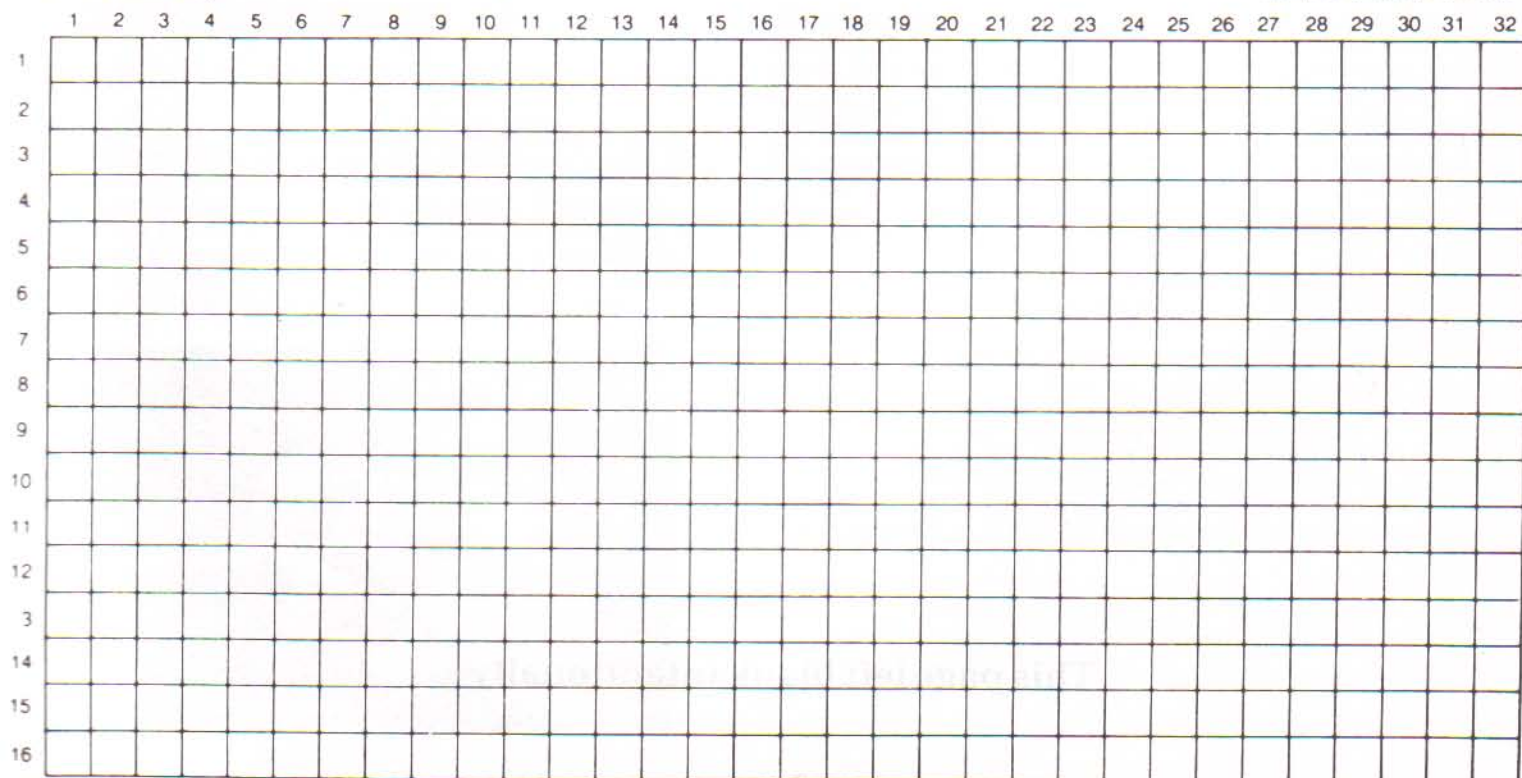

Figure 10. Spider Writer instruction page
B. Spider Writer screen. Press enter, and the spider writer screen will become accessible. See Spider Writer page (Fig. 10) for instructions on how to use it. If you press select while in this mode, it will bring you back to the selection screen.